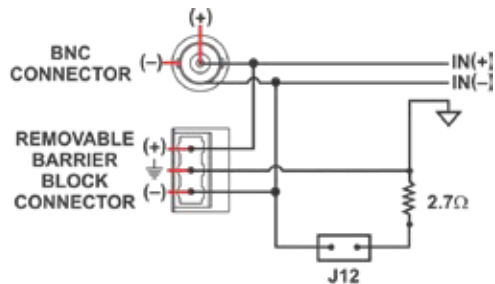

Figure 7.29 – SIM-BNC-OPTOC input connectors' internal wiring
**Jumper J12:** When Open, this option lifts the negative (-) leg from ground on both input connectors, allowing the WECO connector to be used as a balanced input and the BNC connector to be used as an unbalanced floating input. When Closed, the negative (-) leg is tied to ground through a 2.7-ohm resistor, allowing either the BNC or the Removable Barrier Block connector to be used as an unbalanced grounded input. **Figure 7.29** details the input connectors' internal wiring.